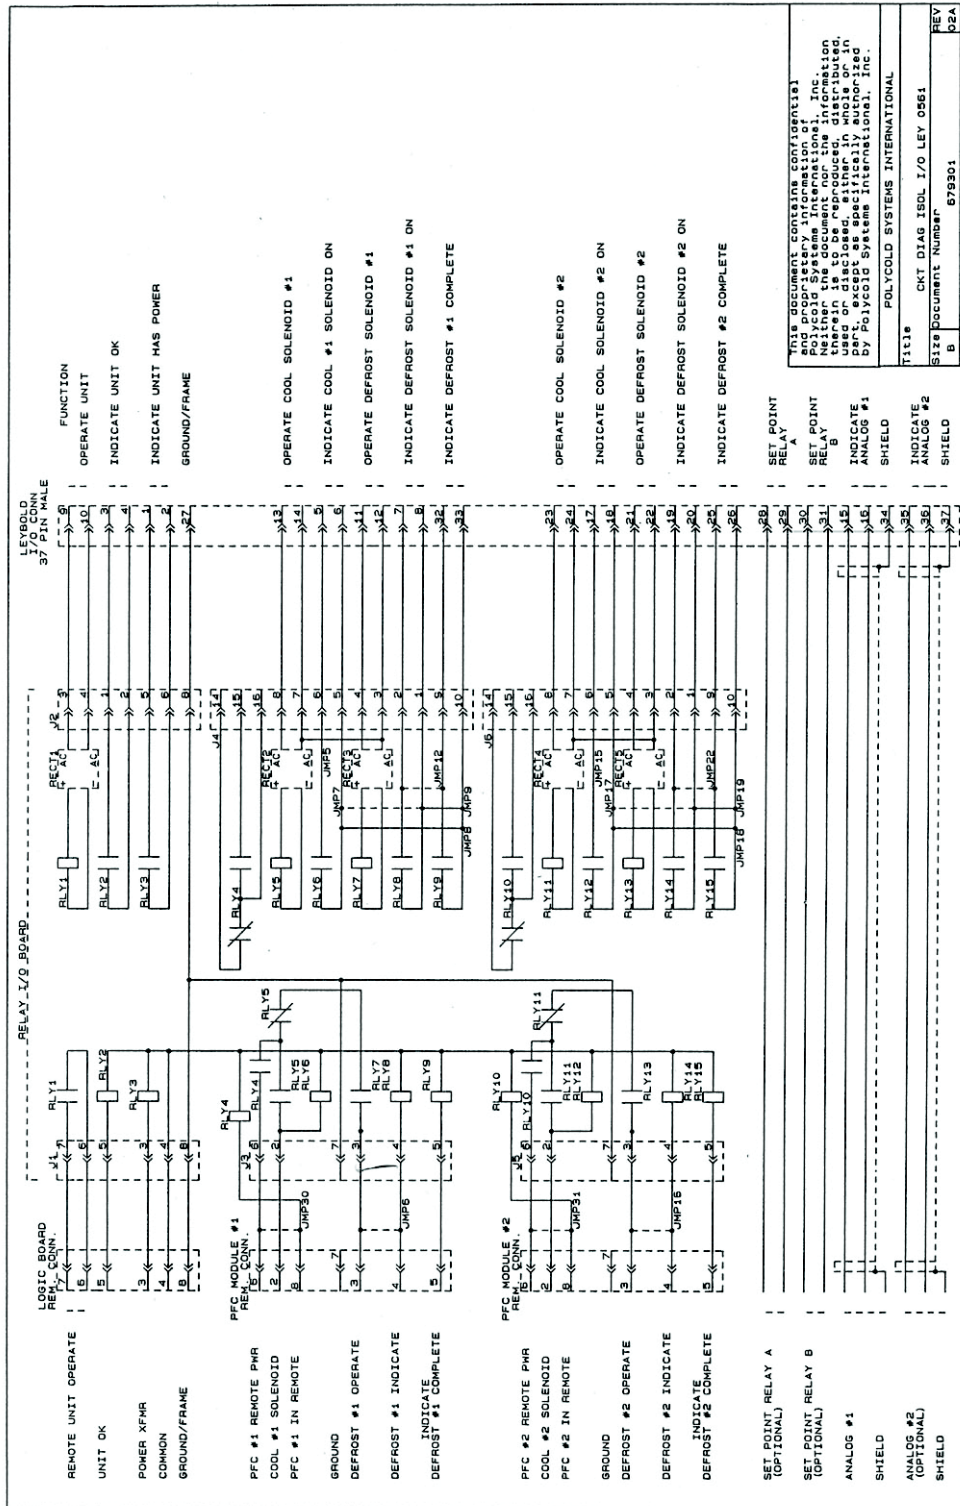

Figure 50. Leybold Isolated Interface Option- Schematic
- Figure 50 - Leybold Isolated Interface Option- Schematic